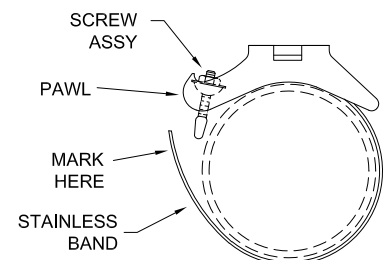
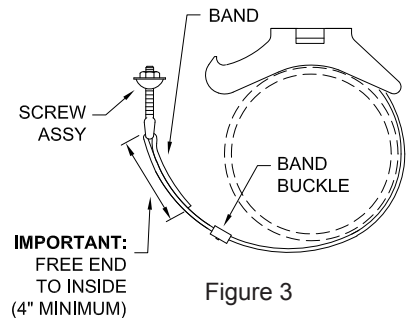

Figure 2
Figure 3
2. Bend the stainless band tightly around the arm, marking it at the point where it makes contact with the slotted end of the screw assembly (Fig. 2).
3. Slide a Band Buckle on the band with the setscrew to the outside (Fig. 3). Bend the band to the inside at a point about 3/4" outward from the mark made in Fig. 2, remove the screw assembly from the pawl, and slide it on the band (Fig. 3).
NOTE: Make certain the free end is turned to the inside and is a minimum of 4" long as shown in Fig. 3. If the free end of the band is too long to wrap inside the the band, cut off the extra length.